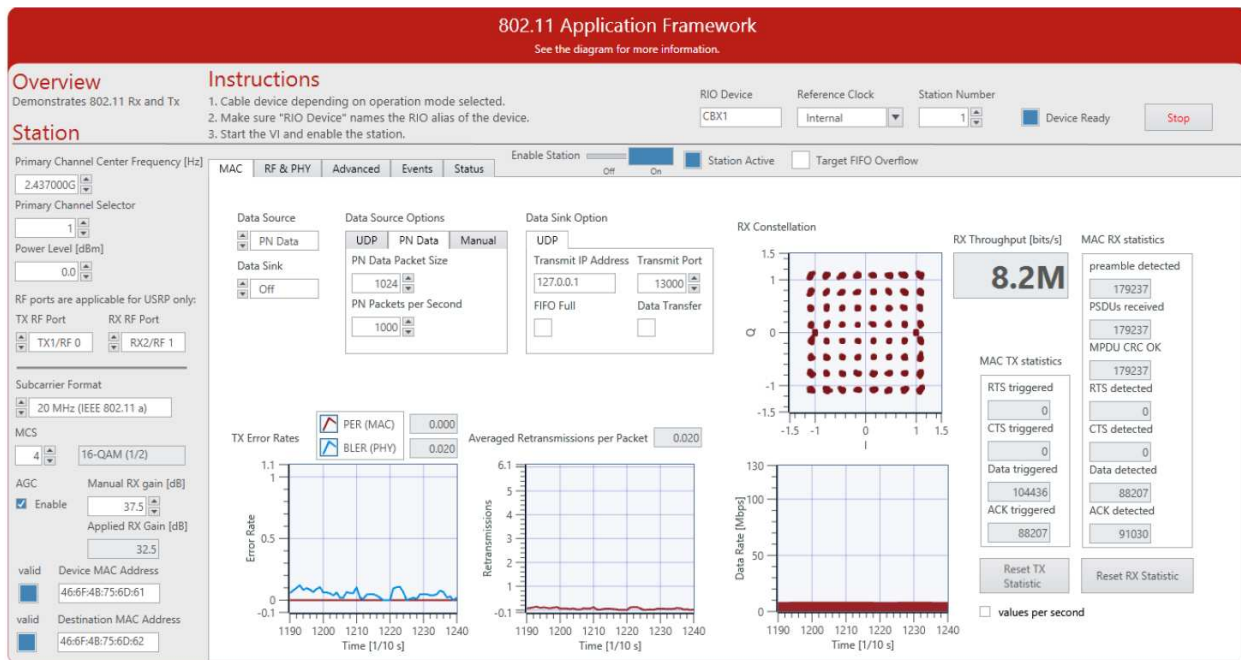

Figure 4 Application Framework User Interface – Station A: MAC Tab
2. Create the following RF connections as shown in Figure 4: